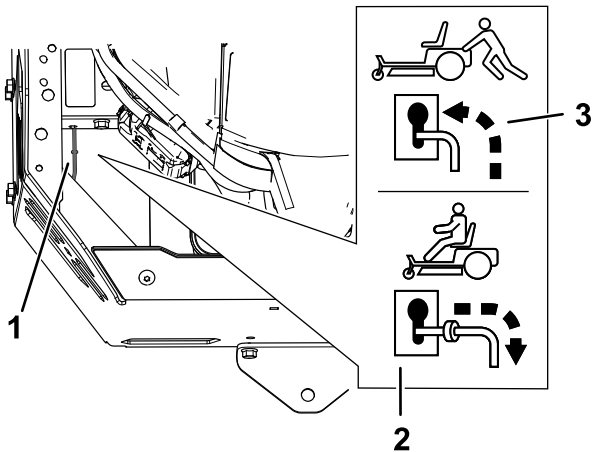

Figure 29
4. Move the bypass levers forward through the slotted hole and down to lock them in place (Figure 29).